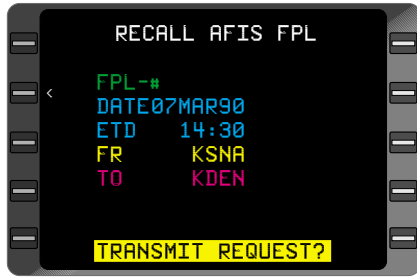

Figure 7-67
- ENTER** Key - DEPRESS. Cursor is positioned over **TRANSMIT REQUEST?** (Figure 7-67)